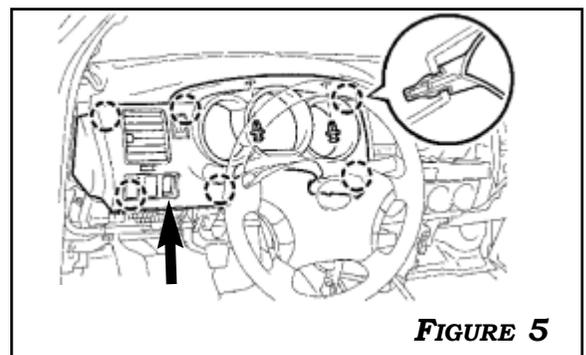

FIGURE 5
5. REMOVE THE 2 CLIPS. DISENGAGE THE 6 CLIPS AND REMOVE THE INSTRUMENT CLUSTER FINISH PANEL SUB-ASSEMBLY. DISCONNECT THE CONNECTORS. PRESS IN TABS TO REMOVE THE SWITCH BLANK PLUG. **FIGURE 5**